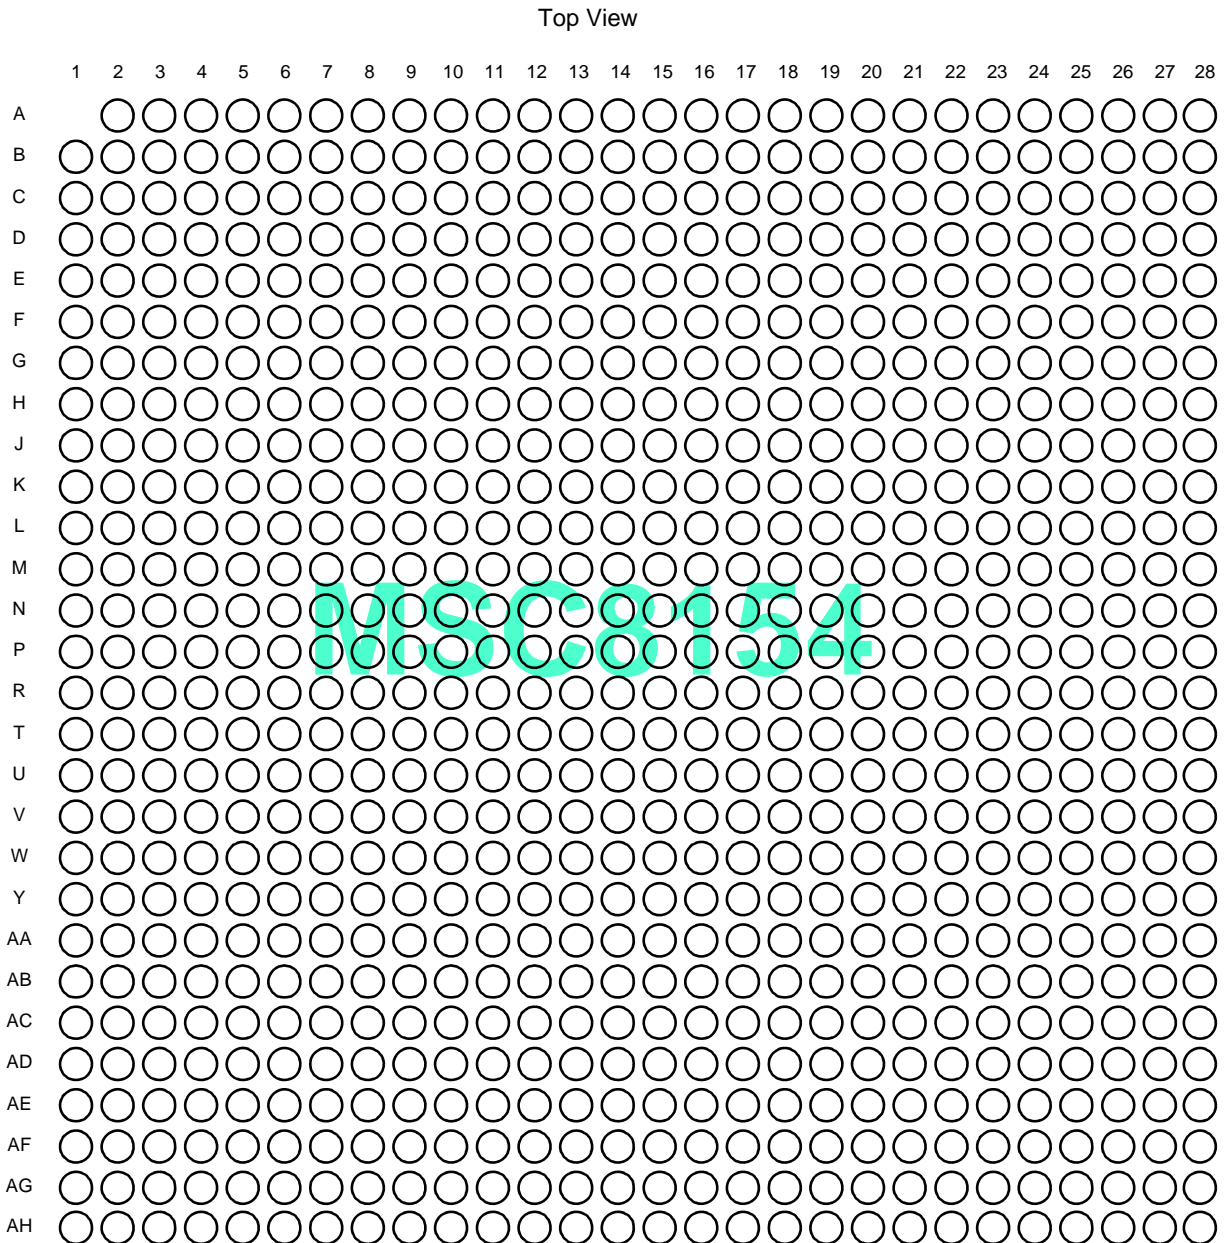

Figure 3. MSC8151 FC-PBGA Package, Top View
- Figure 3. MSC8151 FC-PBGA Package, Top View . . . . . 4
The top view of the FC-PBGA package is shown in Figure 3 with the ball location index numbers.